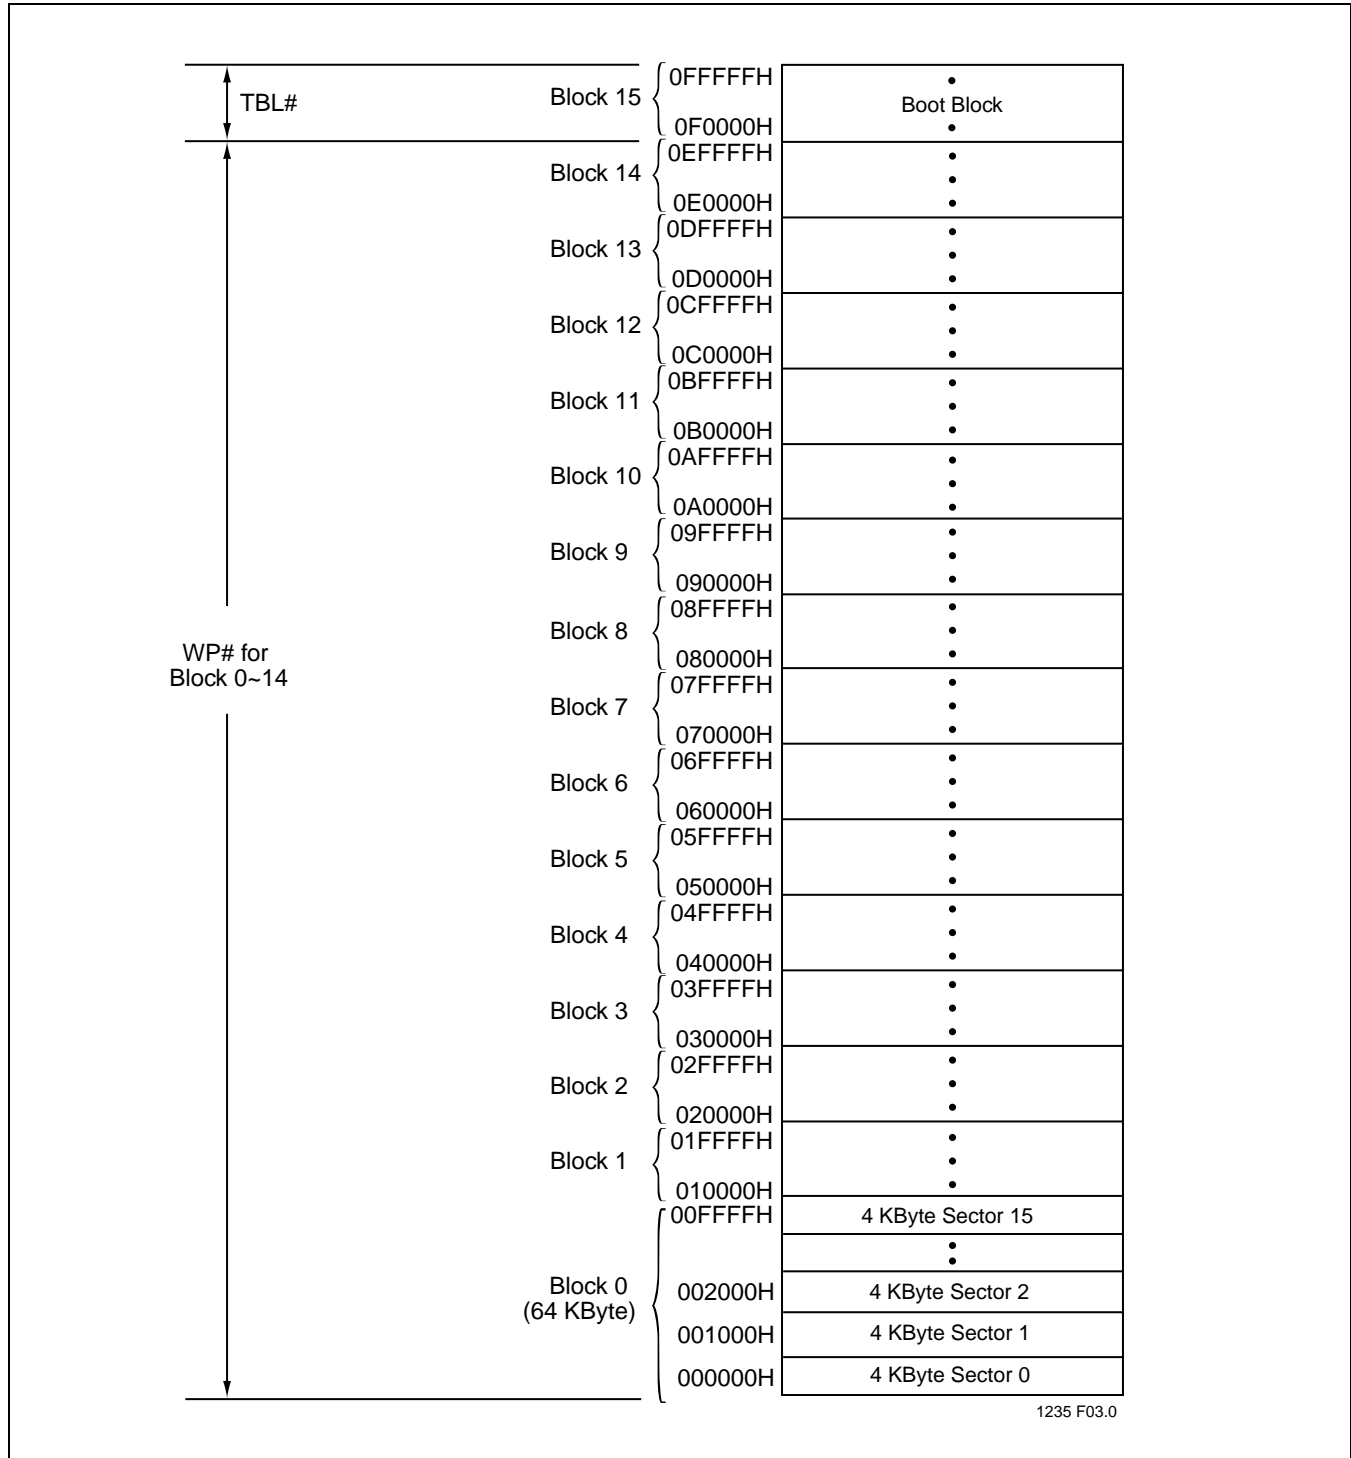

FIGURE 3: DEVICE MEMORY MAP
The SST49LF080A flash memory devices can operate in two distinct interface modes: the LPC mode and the Parallel Programming (PP) mode. The mode pin is used to set the interface mode selection. If the mode pin is set to logic High, the device is in PP mode. If the mode pin is set Low, the device is in the LPC mode. The mode selection pin must be configured prior to device operation. The mode pin is internally pulled down if the pin is left unconnected. In LPC mode, the device is configured to its host using standard LPC interface protocol. Communication between Host and the SST49LF080A occurs via the 4-bit I/O communication signals, LAD [3:0] and LFRAME#. In PP mode, the device is programmed via an 11-bit address and an 8-bit data I/O parallel signals. The address inputs are multiplexed in row and column selected by control signal R/C# pin. The row addresses are mapped to the lower internal addresses (A₁₀₋₀), and the column addresses are mapped to the higher internal addresses (A_{MS-11}). See Figure 3, the Device Memory Map, for address assignments.